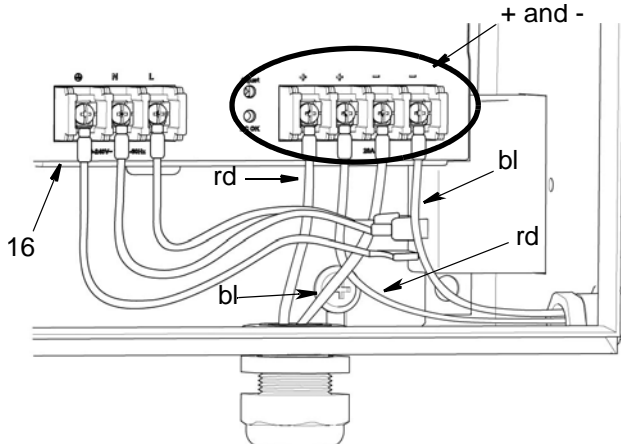

FIG. 16
3. Connect Red (+/rd) and Black (-/bl) wires from Dyna-Star Cable and Controller Wiring Harness to the corresponding + and - marked DC output terminals on the power supply (16) (see FIG. 16).